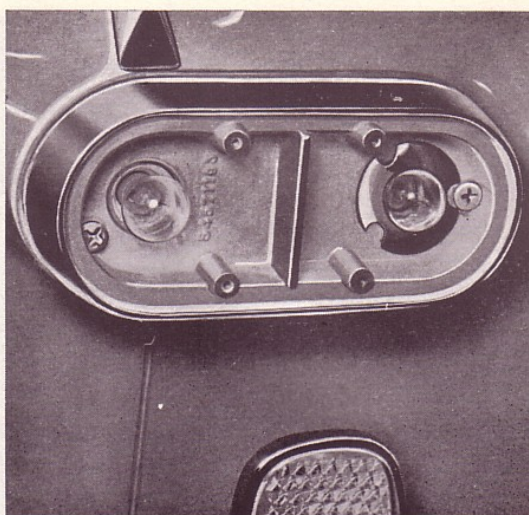

Fig. 89. Rear lamp with glass removed
2. Slacken the two screws retaining the rear lamp housing to the body, see Fig. 89. The nuts are accessible from inside the luggage compartment.